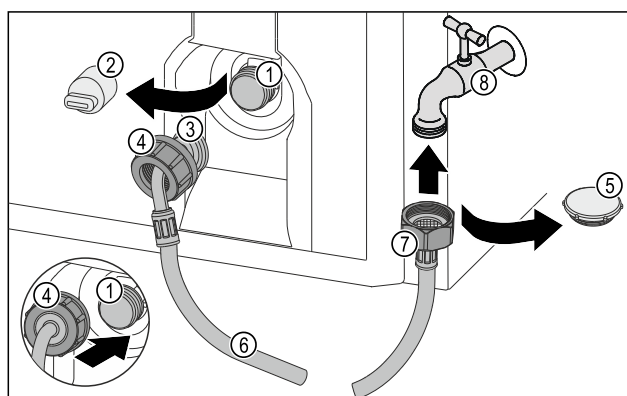

Fig. 72
- Remove the closure cap Fig. 72 (5).
- Place the straight end of the hose Fig. 72 (7) on the tap Fig. 72 (8).
- Tighten the nut at the straight end of the hose Fig. 72 (7) in a clockwise direction.